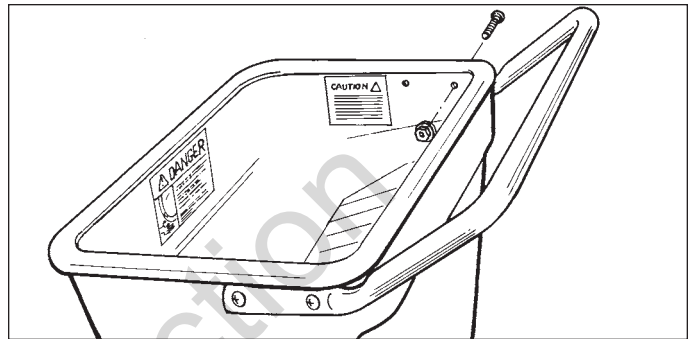

Figure 2. Installing the Hopper Handle
1. Lift the hopper handle up until the outer holes in the handle align with the holes in the shredder hopper. See figure 2.
2. Secure the Hopper Handle in position using (2) 1/4-20 x 3/4 hex socket screws, and (2) 1/4-20 Whiz nuts, inserting the screws from the outside of the shredder hopper.